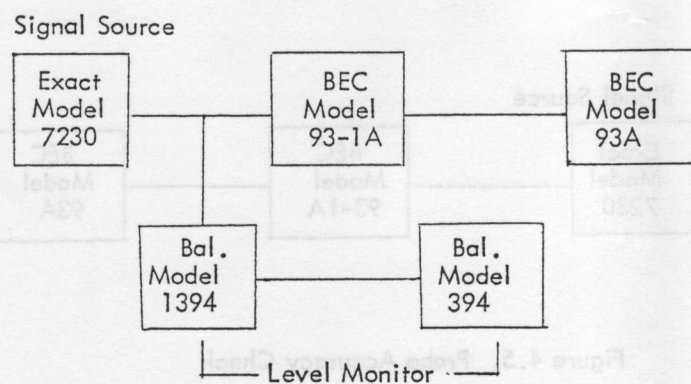

Figure 4.6. Model 93-1A Frequency Response Check
a. Connect the equipment as shown in Figure 4.6. Before making this check, be sure that the frequency response of the Model 93A itself has been verified as being within specifications.
Connect the equipment as shown in Figure 4.6. Check the response as outlined in Section 4.3.10. Adjust C (accessible through the access hole in the compensating box cover) for the flattest response, or until it falls within the limits shown in Table 4.7.